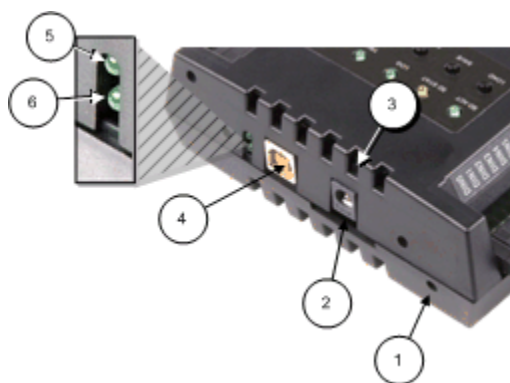

Figure 3. OM-LGR-5327 connectors, SD card slot, LEDs, and reset button
- To power the OM-LGR-5327 from an external power source, using the power connector, connect the 9 V, 1 A external power supply to the external power connector (see Figure 3 on page 10), and plug the adapter into an electrical outlet.
To connect the OM-LGR-5327 to your system, turn the computer on, and connect a USB cable from the OM-LGR-5327's USB connector (see Figure 3 on page 10) to either a USB port on the computer or an external USB hub connected to the computer.
- ① USB and power connectors and LEDs, SD slot, and reset button.
- ② Function buttons and LEDs.
- ③ Screw terminals and LEDs
The components indicated by ① are identified in Figure 3 and explained below.